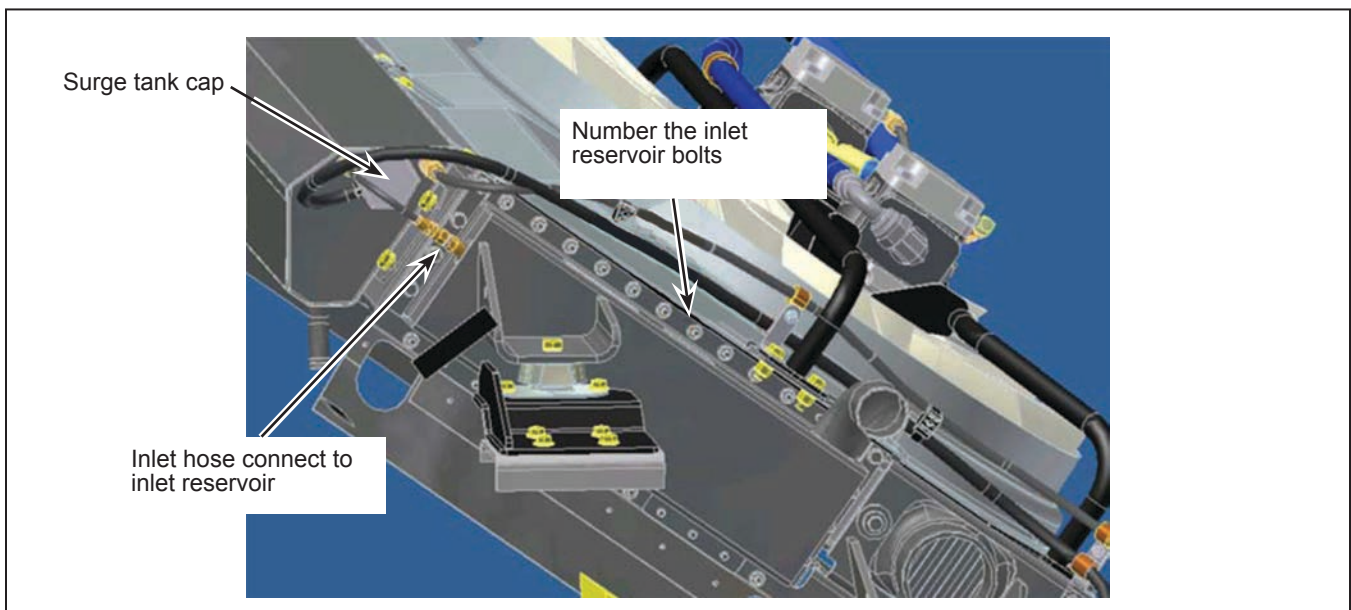

Figure 10 - Inlet Reservoir Installed on the Radiator
- 1.32. Disconnect the inlet hose from the radiator inlet reservoir. See Figure 10.
- 1.33. Number the position of the radiator inlet reservoir bolts located on radiator left side to ease the installation of the inlet reservoir after its modification. See Figure 10.
- 1.34. Remove the inlet reservoir from the radiator and remove the gasket. Retain the hardware. See Figure 10.
- 1.35. Remove the surge tank from the radiator. Retain the hardware and the new cap N65114. See Figure 10.
- 1.38. Install the new surge tank equipped with cap N65114 on the radiator using the retained hardware. See Figure 10.